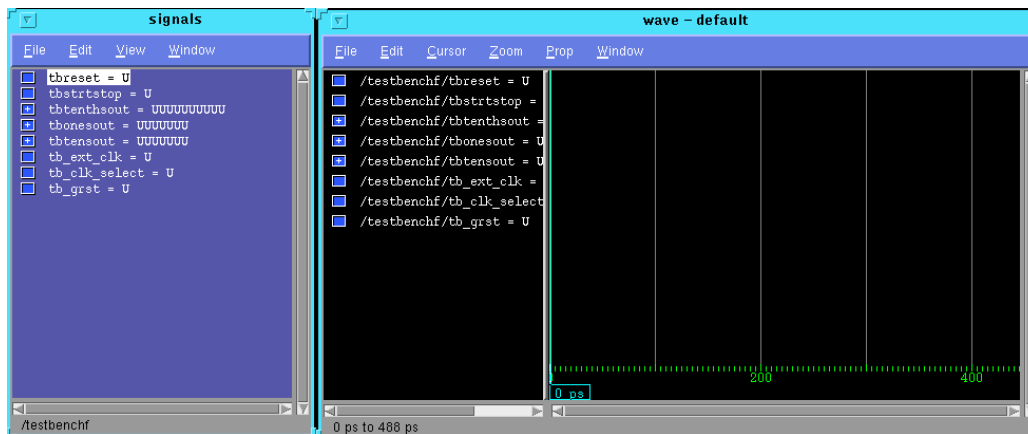

Figure 1-3 MTI Signals and Wave Windows
The Signals window, Wave window, and various other MTI windows open. See the "MTI Signals and Wave Windows" figure 1-3.
3. Drag and drop the signals into the Wave window to display the simulation waveforms as shown in the following figure 1-3.